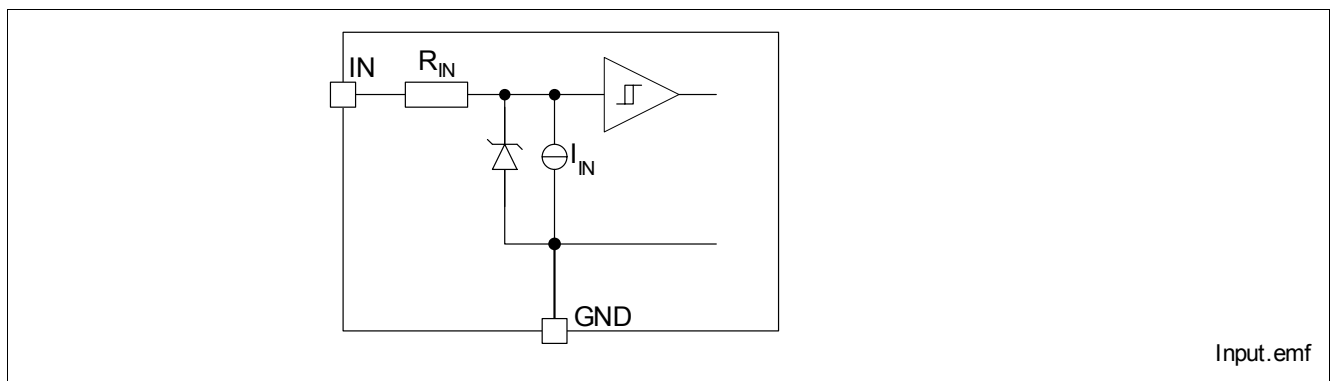

Figure 5 Input Circuit (IN1 and IN2)
**Figure 5** shows the input circuit of the BTS5246-2L. There is an integrated input resistor that makes external components obsolete. The current sink to ground ensures that the device switches off in case of open input pin. The zener diode protects the input circuit against ESD pulses.
The CLA pin circuit is similar to the input pin. Please refer to Figure 5 for details. Please note that the thresholds for high and low state differ between IN and CLA.